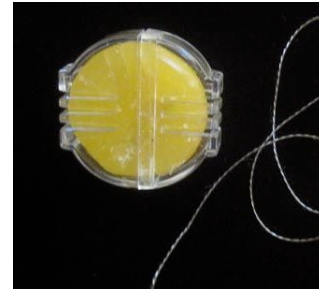

Figure 25: Conductive thread and beeswax
Step 2: Pass the cut thread through the beeswax twice to smooth down the strands (Figure 25).